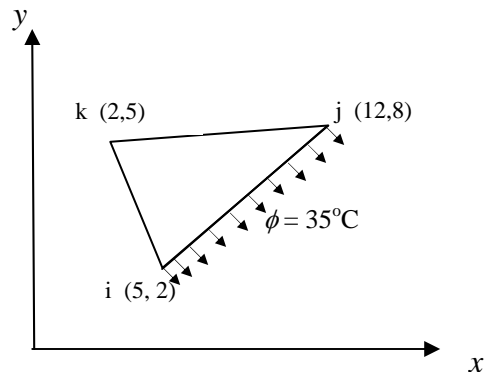

Fig. 4
7. Calculate the conductance matrix  $[K^{(e)}]$  and load vector  $\{F^{(e)}\}$  for the triangle element shown in fig.4 . The thermal conductivities are  $k_x = k_y = 6 \text{ W/cm}^\circ\text{C}$  and  $h = 0.4 \text{ W/cm}^2 \text{ }^\circ\text{C}$ . Thickness of the element is  $0.5 \text{ cm}$ . All coordinates are given in cms. Convection occurs on the side joining nodes  $i$  and  $j$ . [16]